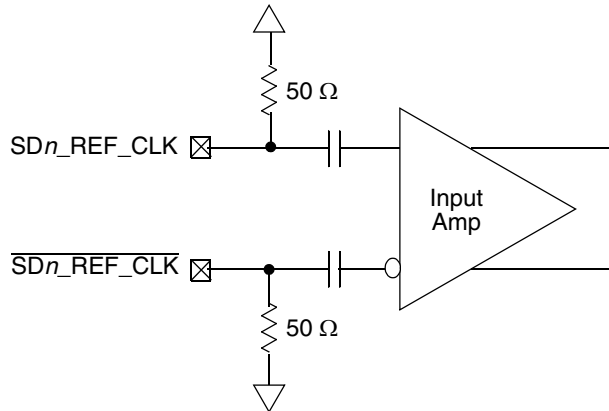

Figure 44. Receiver of SerDes Reference Clocks
Figure 44 shows a receiver reference diagram of the SerDes reference clocks. Characteristics are as follows:
- The $\overline{SDn_REF_CLK}$ and SDn_REF_CLK are internally AC-coupled differential inputs as shown in Figure 44. Each differential clock input ($\overline{SDn_REF_CLK}$ or SDn_REF_CLK) has on-chip 50- Ω termination to SGND_SRDSn (xcorevss) followed by on-chip AC-coupling.